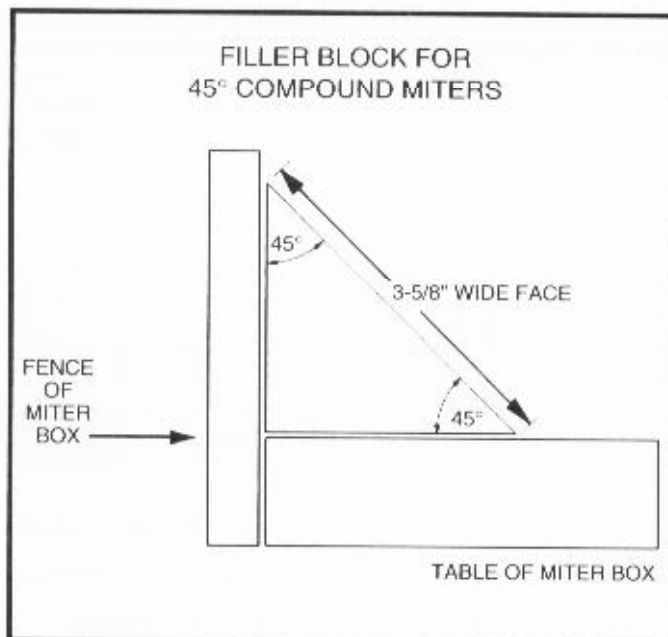

Fig. 44
1. Fig. 44, illustrates a filler block that can easily be constructed for use in cutting compound miters. Compound miters are used mostly for shadow box picture frames, etc. The face of the filler block is shown at 45 degrees to the fence and table. If a different work angle tilt is desired, simply vary the angle of the filler block face accordingly.
2. Although Fig. 44, illustrates the face of the filler block 3-5/8" wide, this dimension will vary depending on the material being cut.